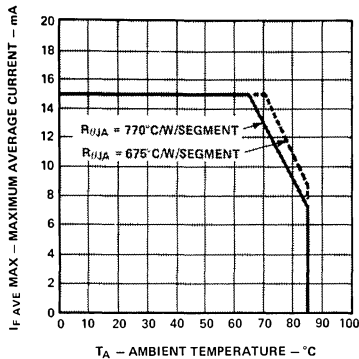

Figure 1. Maximum Allowable Average Current per Segment as a Function of Ambient Temperature
2. Derate maximum average current above T_A = 65°C at 0.4 mA/°C per segment, see Figure 1. Derate maximum DC current above T_A = 78°C at 0.6 mA/°C per segment.